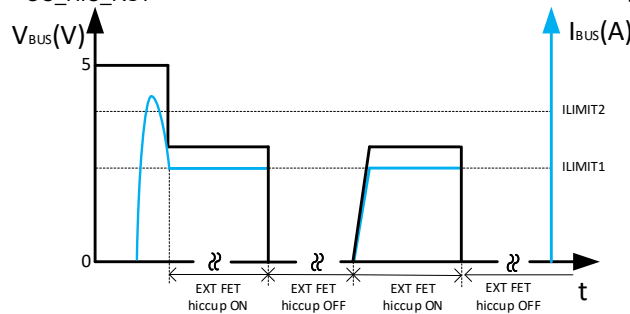

Figure 10-20. Two Level Current Limit Methodology with ext MOSFET Case 3
- Case 3: If the load current $I_{BUS} > I_{LIMIT2}$, the external MOSFET will current limit to I_{LIMIT1} immediately, then enter hiccup mode with 2 ms of on-time and 263 ms of off-time, as shown in Figure 10-20. When the load current $I_{BUS} < I_{LIMIT1}$ for $t_{OC_HIC_RST}$, the external MOSFET will resume always on.